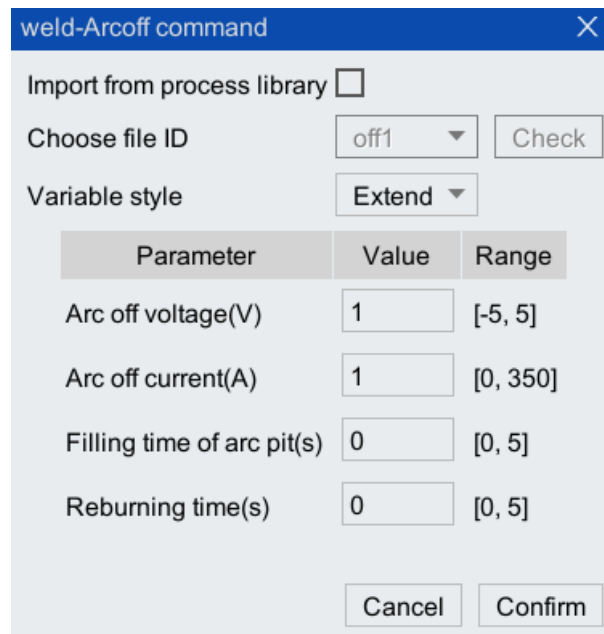

Figure 10-24 Arc off instruction configuration interface
Step8. Click [Insert cmd/Function Package/ weld/Welding Command/Arcoff command], and configure [Arc off voltage] and [Arc off current] in the pop-up configuration interface (as shown in Figure 10-24). Click on <Confirm>.